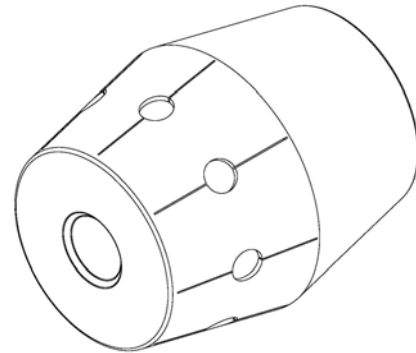
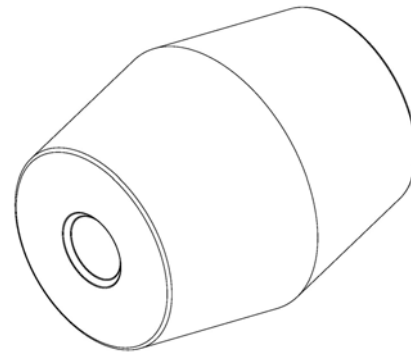

Figure 36 Energy Absorbing Cartridge – Type A
Figure 37 Energy Absorbing Cartridge – Type B
There are two types of Energy Absorbing Cartridges (EAC). Each EAC has a forward and rearward end. Type “A” EAC’s (Figure 36) have eight (8) 3” [75mm] diameter holes around the circumference of the front half of the cylinder. Type “B” EAC’s (Figure 37) have a solid cylinder wall with three (3) vent holes on the rearward end.